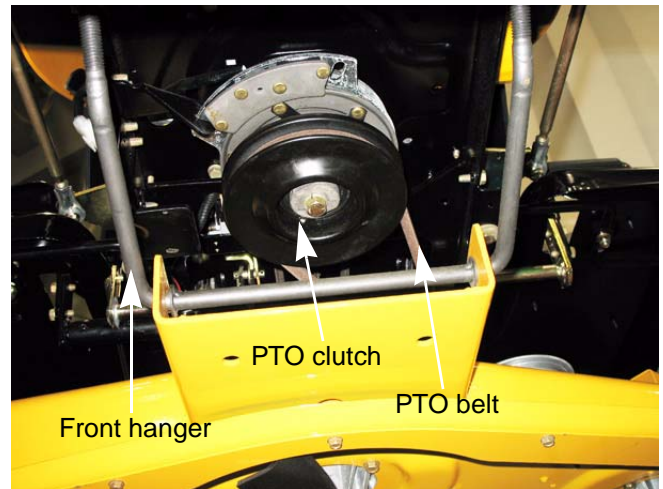

Figure 8.2
5. Slide the deck forward to unhook the front hanger. See Figure 8.2.
6. Slide the PTO belt off of the PTO clutch. See Figure 8.2.